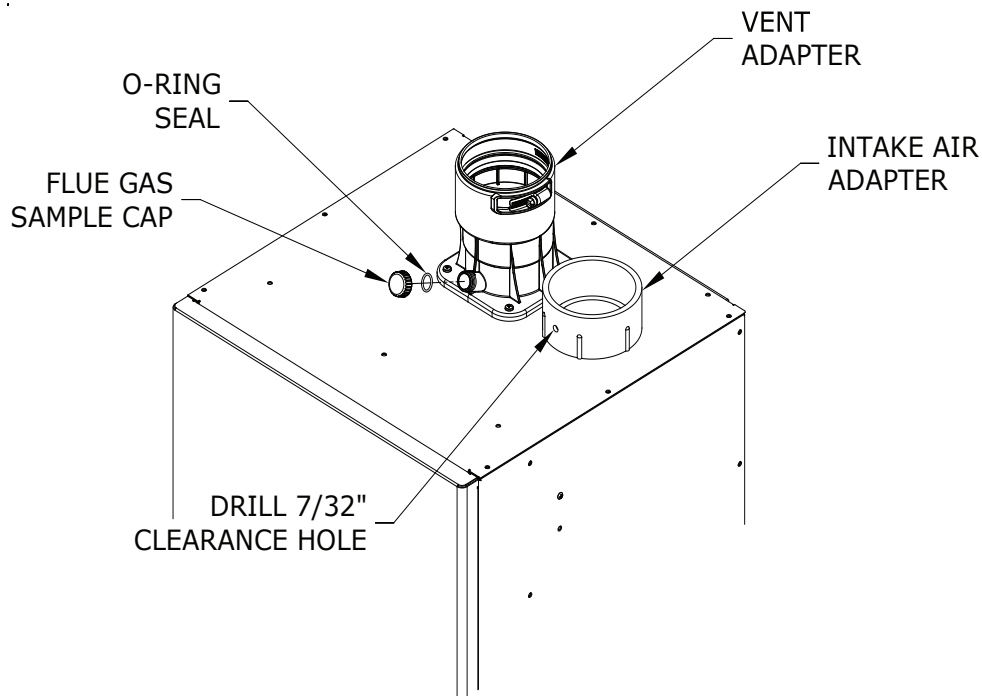

Figure 7.27: Vent Connections and Flue Gas Sample Cap Location
Never leave the boiler in operation without the gas sample cap in place (Figure 7.27).
- a. The vent adaptor has three different inside diameters. The middle inside diameter accepts 3" nominal PolyPro (Figure 7.27). A locking band clamp in the adaptor prevents the vent pipe from coming out of the adaptor once it is installed and tightened. Lubricate the gaskets in the vent adaptor with soapy water and insert the first piece of 3" PolyPro into the adaptor until it bottoms out. Tighten locking band clamp to secure vent pipe.